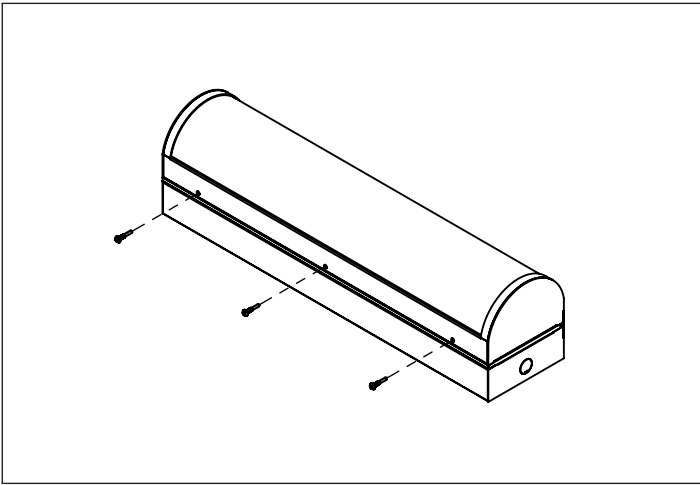

Figure 1
1. Remove screws to open fixture (Fig. 1)